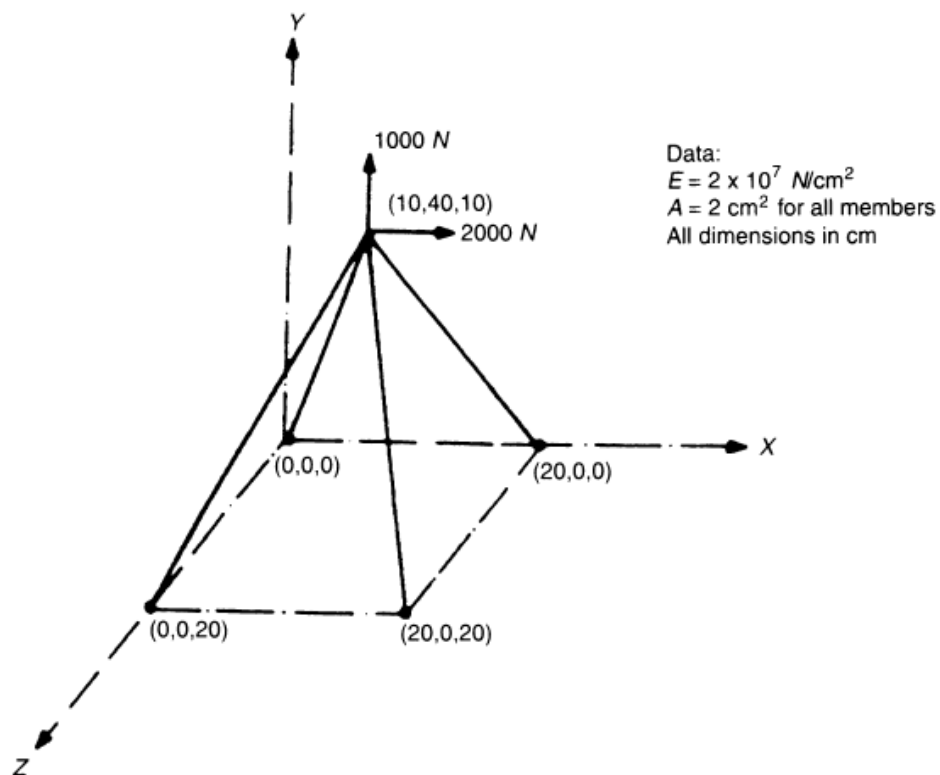

Figure P2.17
17. For the space truss shown in **Figure P2.17**, determine the deflection of upper joint, the stress in each member and the reaction forces.